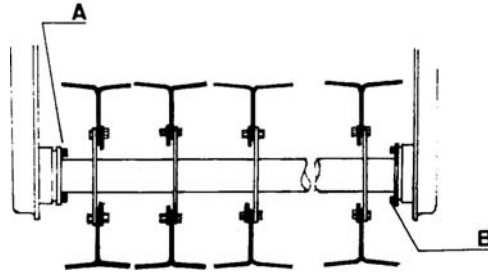

Fig. 14
To change rotors, the ROTAVATOR should be lifted above the ground on the 3-point linkage and firmly supported for safety. Take out the 9 bolts (A) securing the rotor to the drive shaft on the outer part of the machine and the 8 bolts (B) securing the rotor to the stub axle on the inner part of the machine. To fit an alternative rotor reverse the sequence of operations (see fig.14) In a bracket (Z) for 2 blades (see fig.23), fit the L.H. blades in the first housing in direction of rotation. NOTE: be careful to put the nut into the hexagonal housing (B) against the blade. Tightening torque: 200 N-m